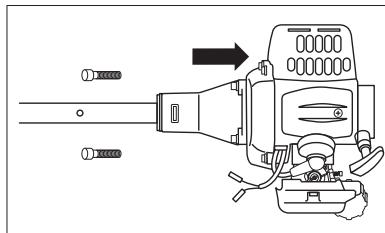

fig. 4
5. Install the rod assembly to the engine using four screws (fig. 4).